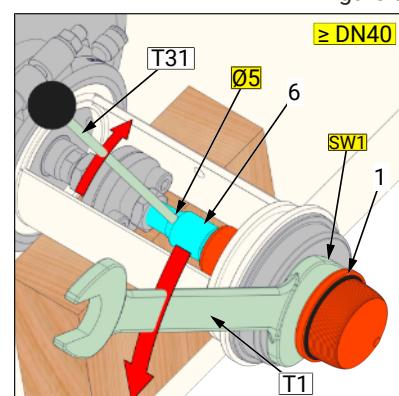

Figure 4
- Fig. 4 Dismounting via spanner flat (SW1) (\geq DN40).
- So that the bore (B1) will be visible, first unscrew the insert (2).
- Unscrew the piston (1) respectively the flow cone (Skm) from the spindle (6) with a pin wrench (T10).